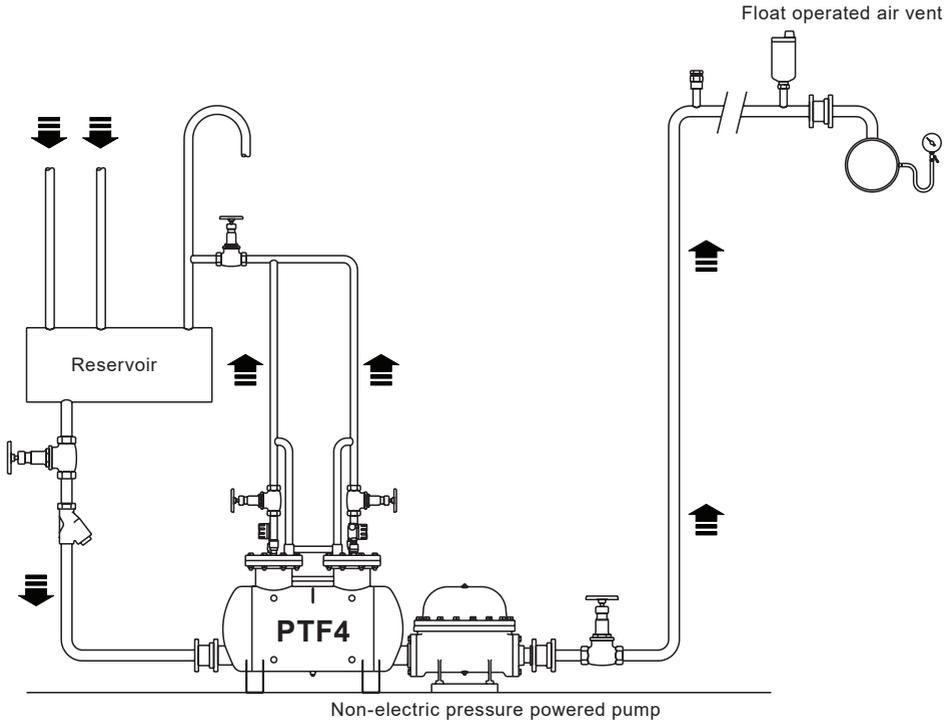

Fig. 15 Pressure-powered pump discharging to a long delivery line
4. a) Install a vacuum breaker at the top of the lift (at a high point in the return line). For pressurised return systems an air eliminator may be required downstream of the vacuum breaker - See Figure 15.